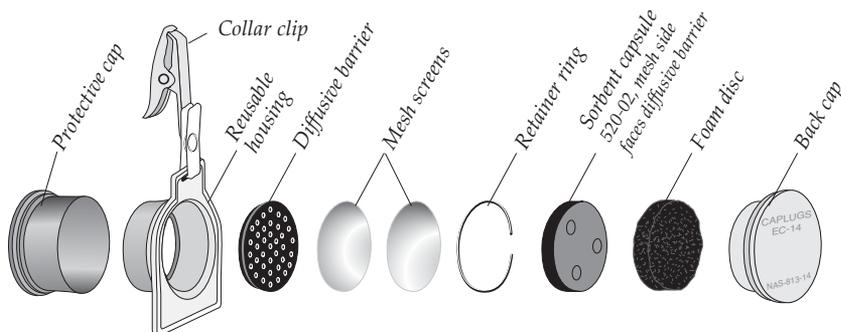

Figure 1. Complete Assembly of Passive Sampler for Elemental Mercury
5. Re-assemble sampler housing for storage, without the sorbent capsule or foam disk (see Figure 1).